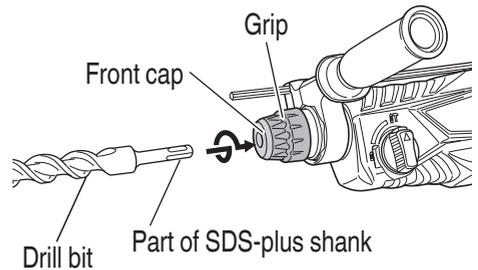

Fig. 1
4. Mounting the drill bit (**Fig. 1**)
- (1) Clean the shank portion of the drill bit.
- (2) Insert the drill bit in a twisting manner into the tool holder until it latches itself (**Fig. 1**).
- (3) Check the latching by pulling on the drill bit.